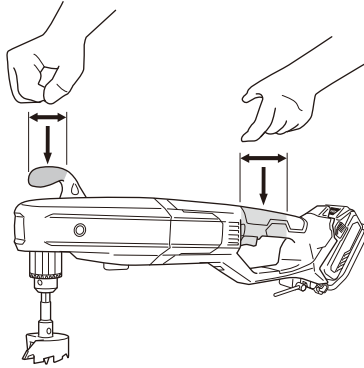

Fig. 1
2. Make sure to securely hold the tool during operation. Failure to do so can result in accidents or injuries. (Fig. 1)